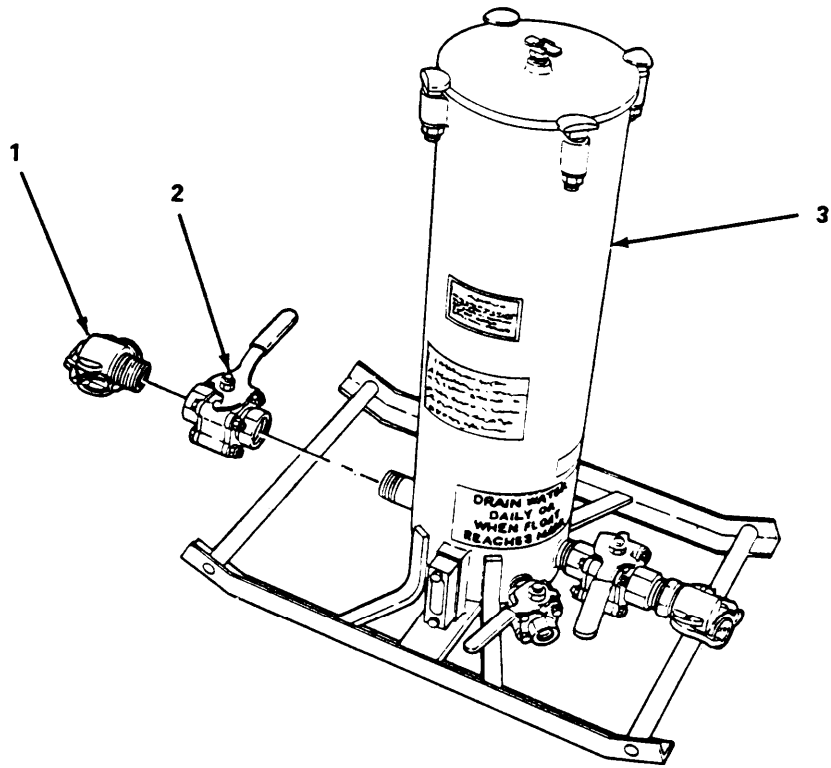
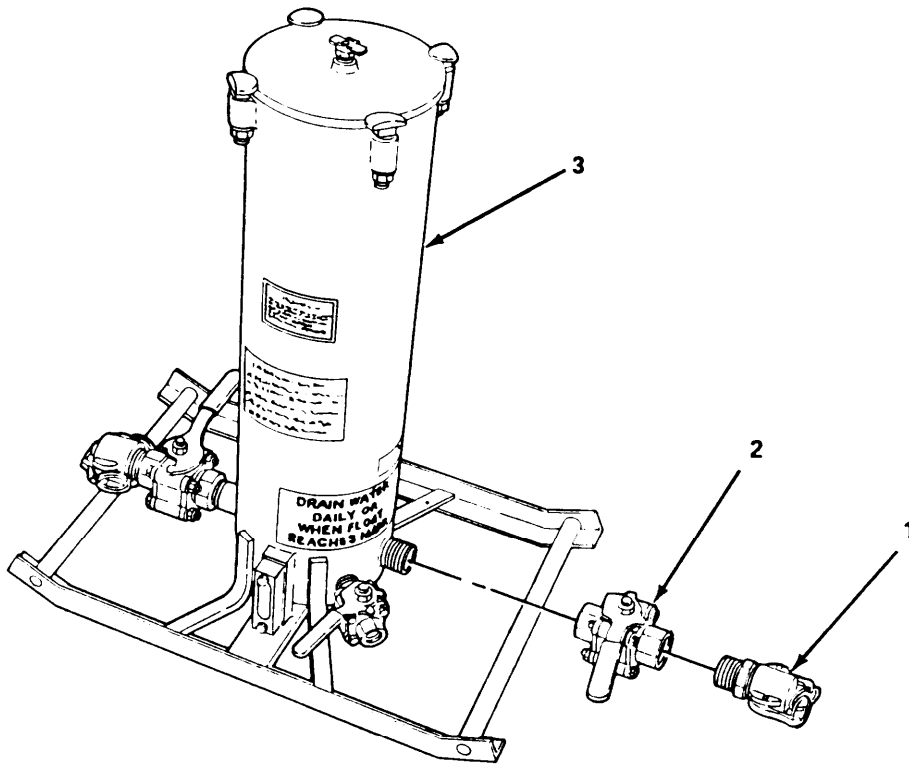

Figure 4-6. Inlet Valve, Repair.
Figure 4-7. Outlet Valve, Repair.
Repair.**(1) Inlet valve.** (figure 4-6)
- (a) Remove quick disconnect (1) from inlet valve (2).
- (b) Remove inlet valve (2) from tank (3).
- (d) Install inlet valve (2).
- (e) Install quick disconnect (1).
(2) Outlet valve. (figure 4-7)
- (a) Remove quick disconnect (1) from outlet valve (2).
- (b) Remove outlet valve (2) from tank (3).
- (d) Install outlet valve (2).